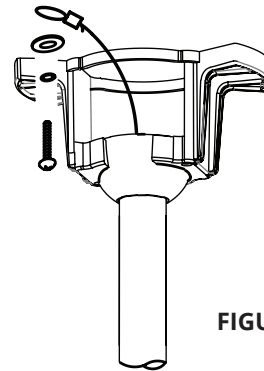

FIGURE 18
2. Secure the safety cable to the building structure using a spring washer, flat washer, and wood screw provided (Fig. 18).